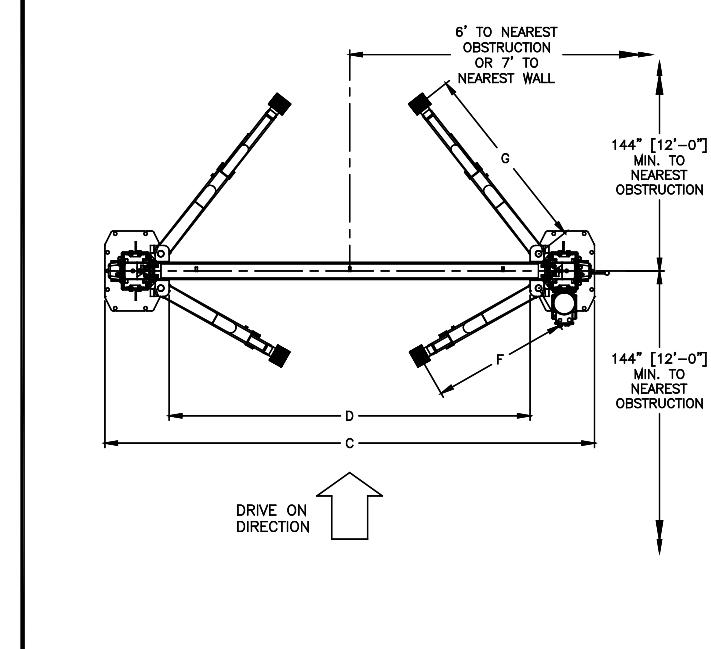

Fig1b - Service Bay Layout
- 1) Layout the service bay according to the architect's plans or owners instructions (see **Fig 1b**). **Failure to install in this orientation can result in personal and property damage.** Be certain that the proper conditions exist, see page 3.